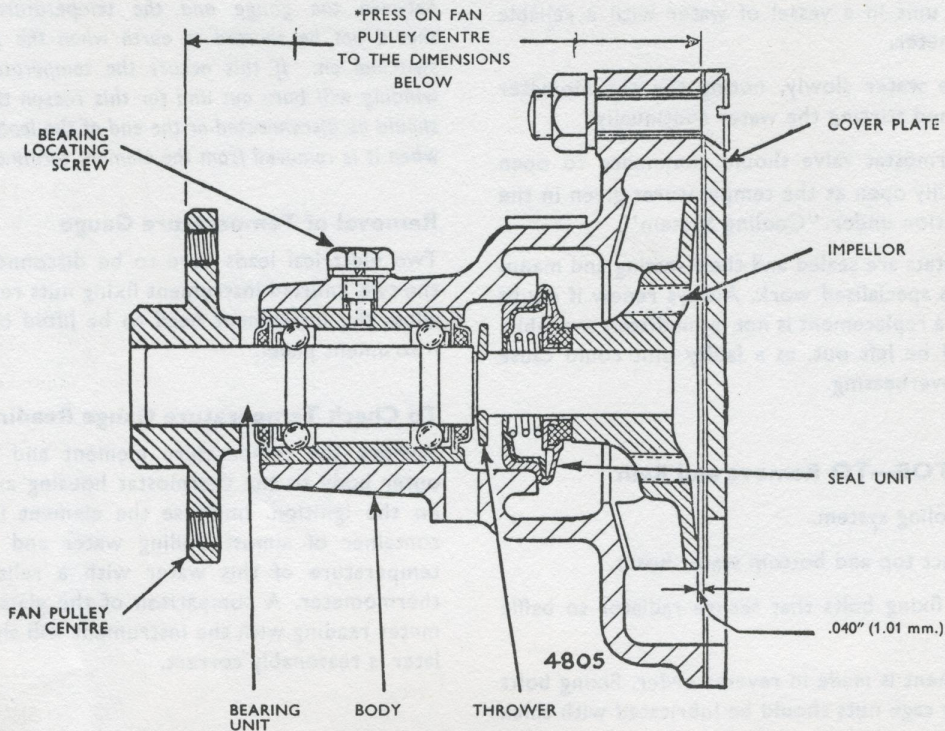
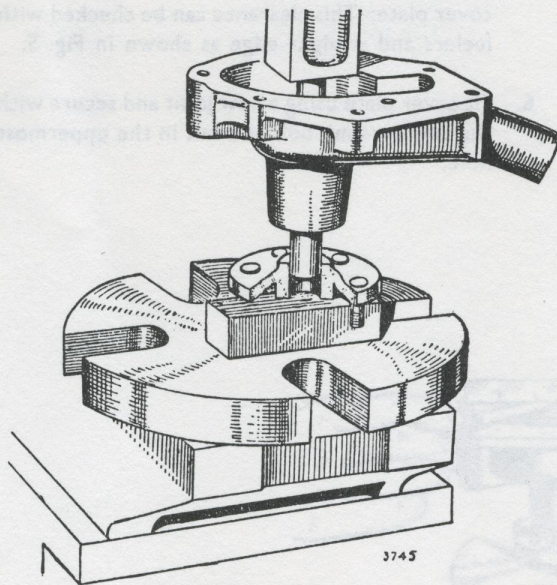
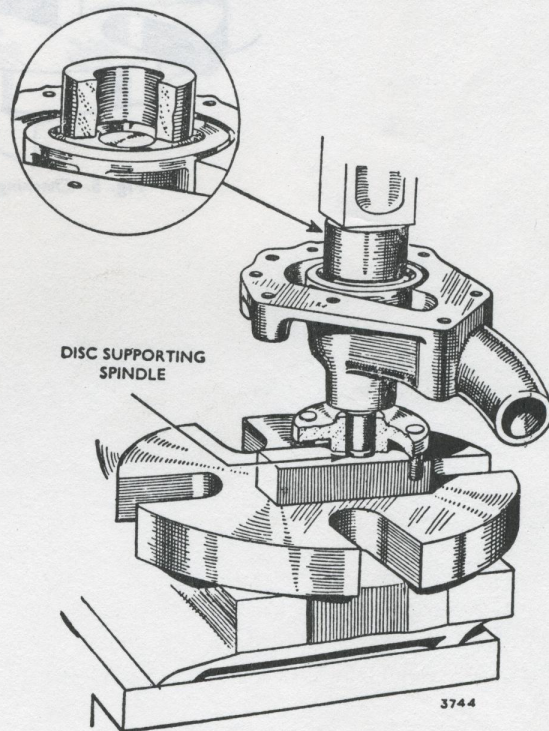

Fig. 2. Sectional view of water pump
Fig. 3. Pressing on fan centre
Fig. 4. Pressing on pump impellor
A sectional view of the water pump is shown in Fig. 2. The impellor and fan pulley centre are a press
1. Remove bearing locating screw, see Fig. 2, and the countersunk bolt and nut holding on the
3. Place the fan pulley centre on a press table and press the larger diameter of the spindle into the pulley centre, as illustrated in Fig. 3 until the front face of the pulley is positioned as shown by the dimension in Fig. 2. This position ensures the correct alignment of the fan pulley to the crankshaft pulley.
Place the water seal on the smaller diameter of the spindle with the carbon face towards the back face of the water pump, and push the seal firmly into the housing. See Fig. 2.
5. Support the pump spindle end inside the fan pulley centre as shown in Fig. 4 and press the impellor on to the shaft until the impellor is in the position shown in Fig. 2. It should be noted that a clearance of .040" (1.01 mm.) should exist between the outer face of the impellor and